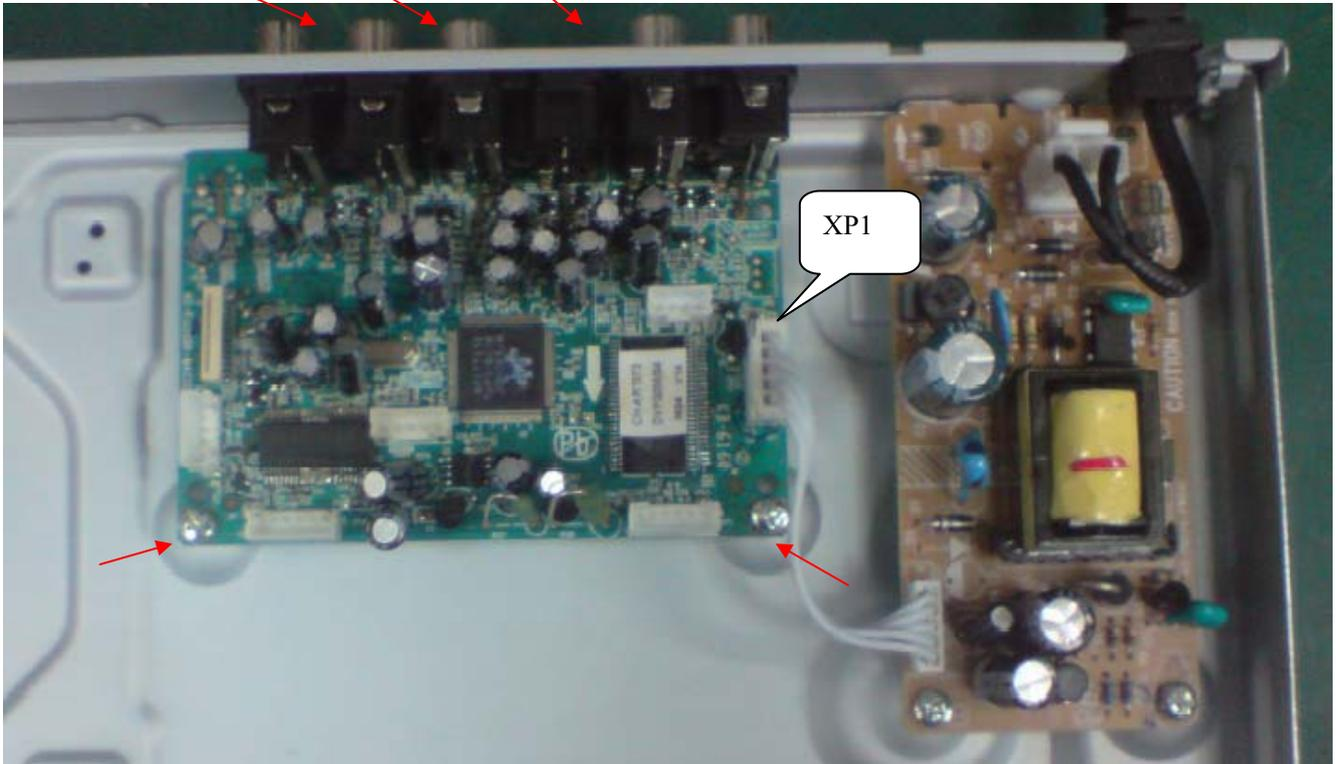

Figure 7
**Step6:** Dismantling Main Board, first disconnect the connector (XP1), and then remove 5 screws. (Figure 7)